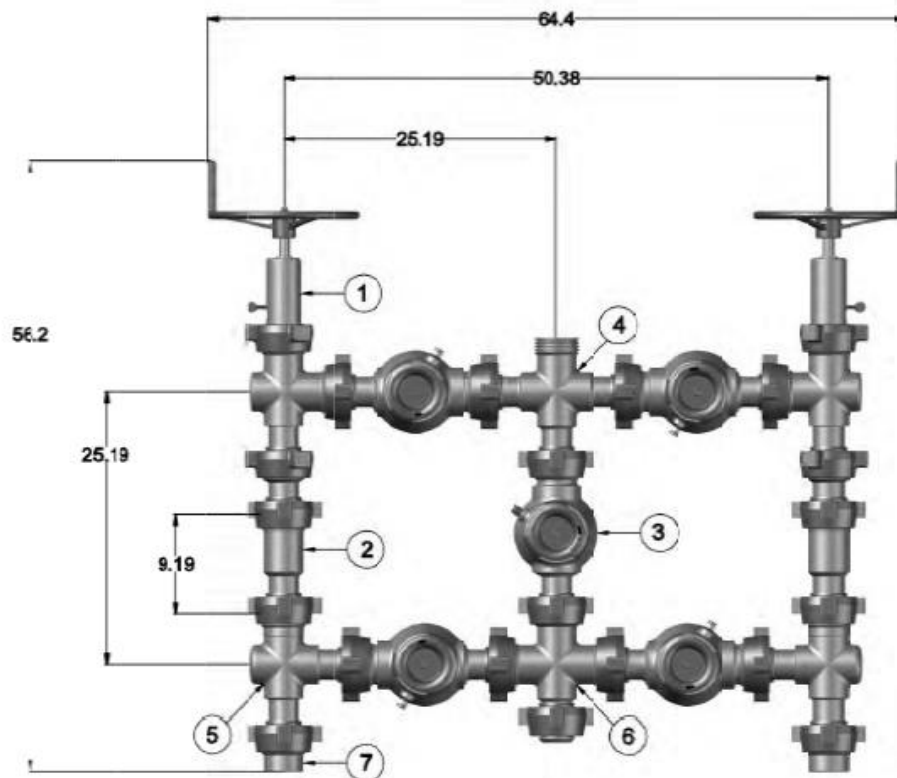

Figure 9. Five valve 15k choke manifold.
- Returns will be taken through the wellhead valves to a choke manifold (Fig 9 & 10).